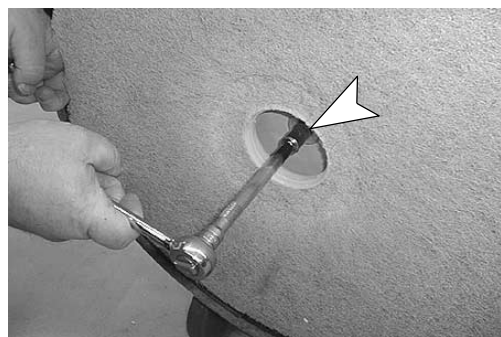

Fig. 2
2. Remove pad driver from motor hub, 1/2" socket wrench required (Figure 2).